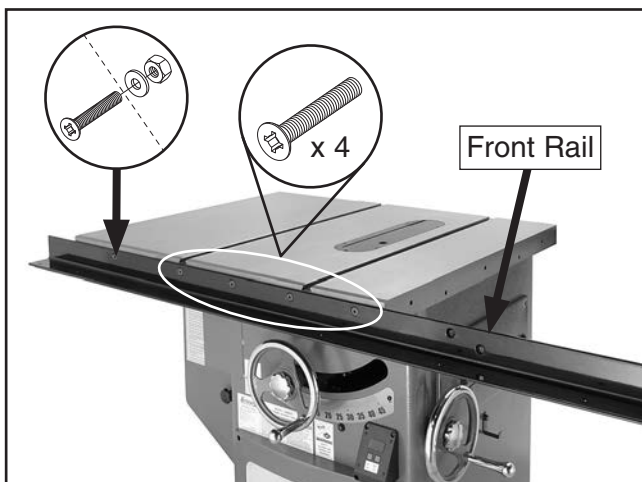

Figure 8. Example of front rail installed.
2. Fasten front rail onto table saw with (4) M8-1.25 x 25 flat head screws, shown in **Figure 8**. Also secure far left side of rail with (1) M8-1.25 x 25 flat head screw, 8mm lock washer, and M8-1.25 hex nut.